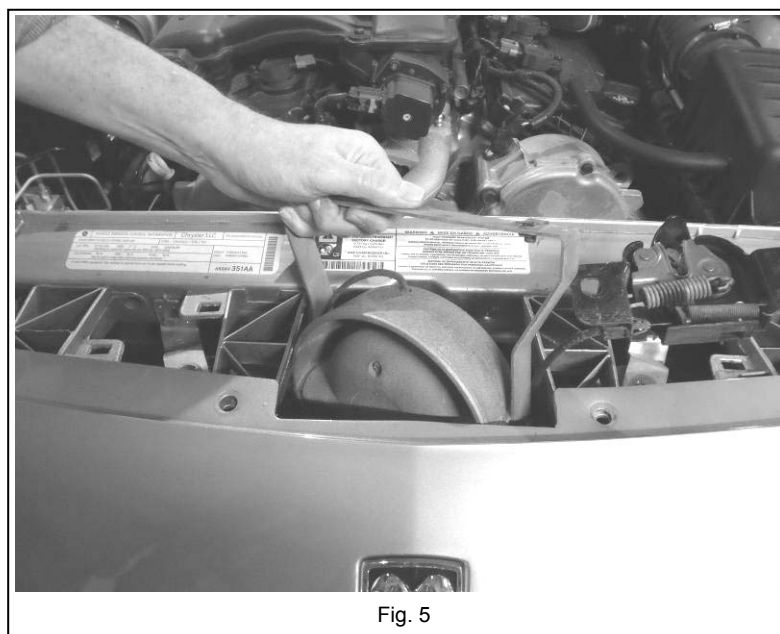

Fig. 5
6. Fig. 5. Insert speaker/bracket assembly through hood latch access hole and position with Clip On nuts on bracket just below the empty mounting pin holes. Attach with supplied 2-1/2" bolts through holes into Clip On nuts.